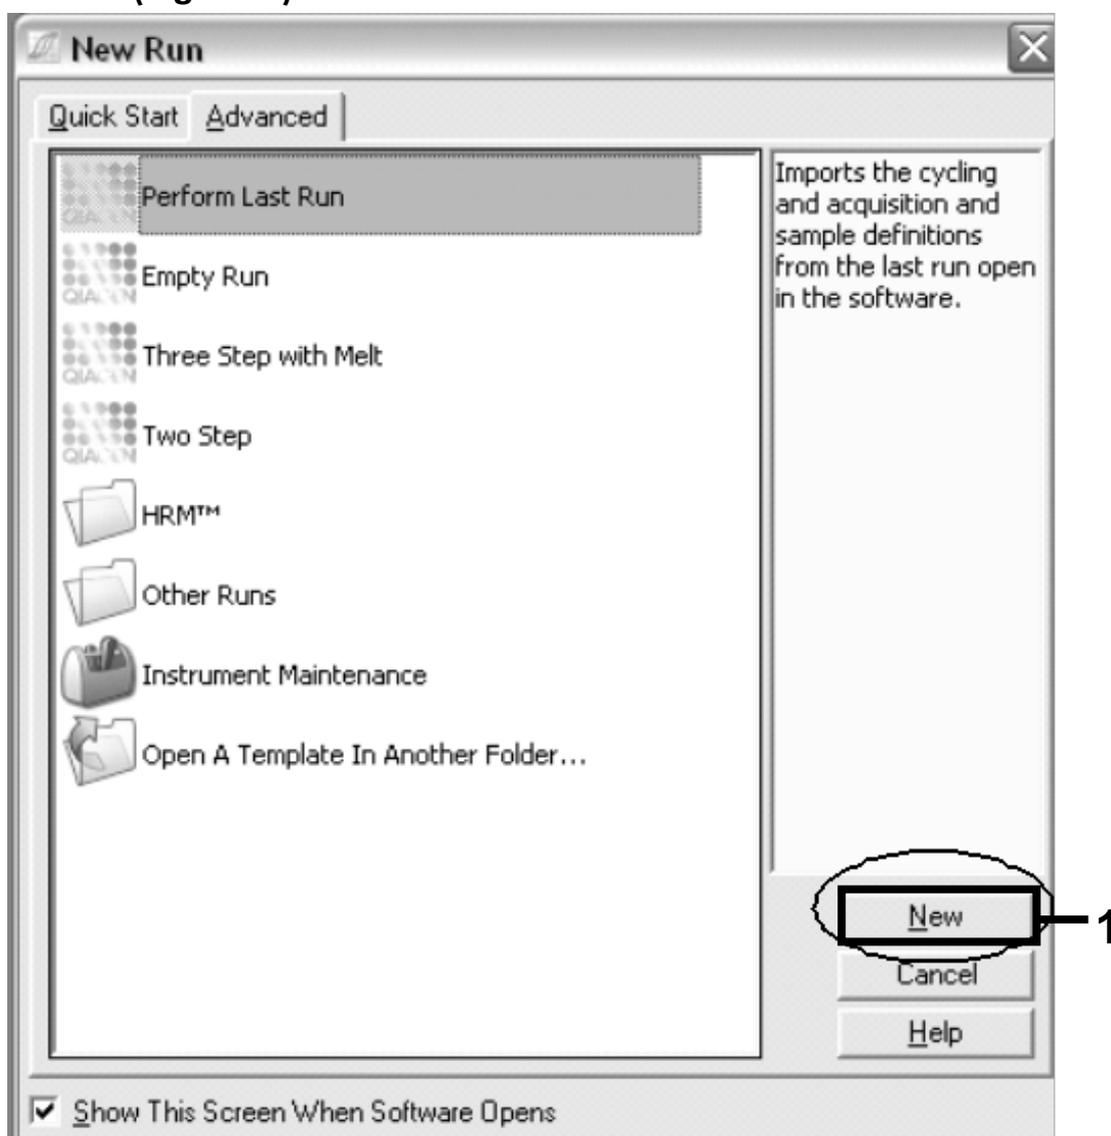

Figure 3. The “New Run” dialog box.
Setting the general assay parameters	Figures 3, 4
11. Start the Rotor-Gene software. In the “New Run” dialog box, click “New” (Figure 3).